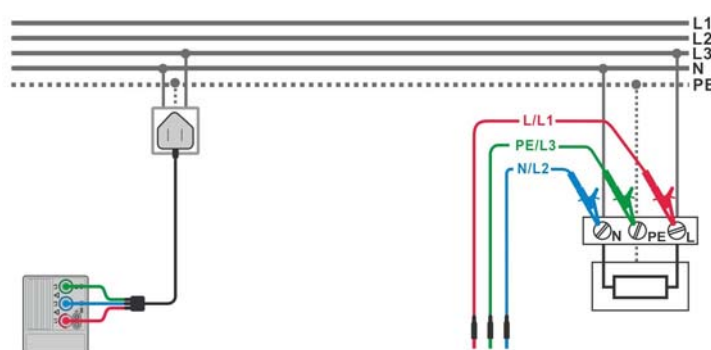

Figure 5.28: Connection for measurement of fault loop impedance
- ❑ **Connect** the test leads to the installation wiring to be tested (see *Figure 5.21* and *Figure 5.28*).